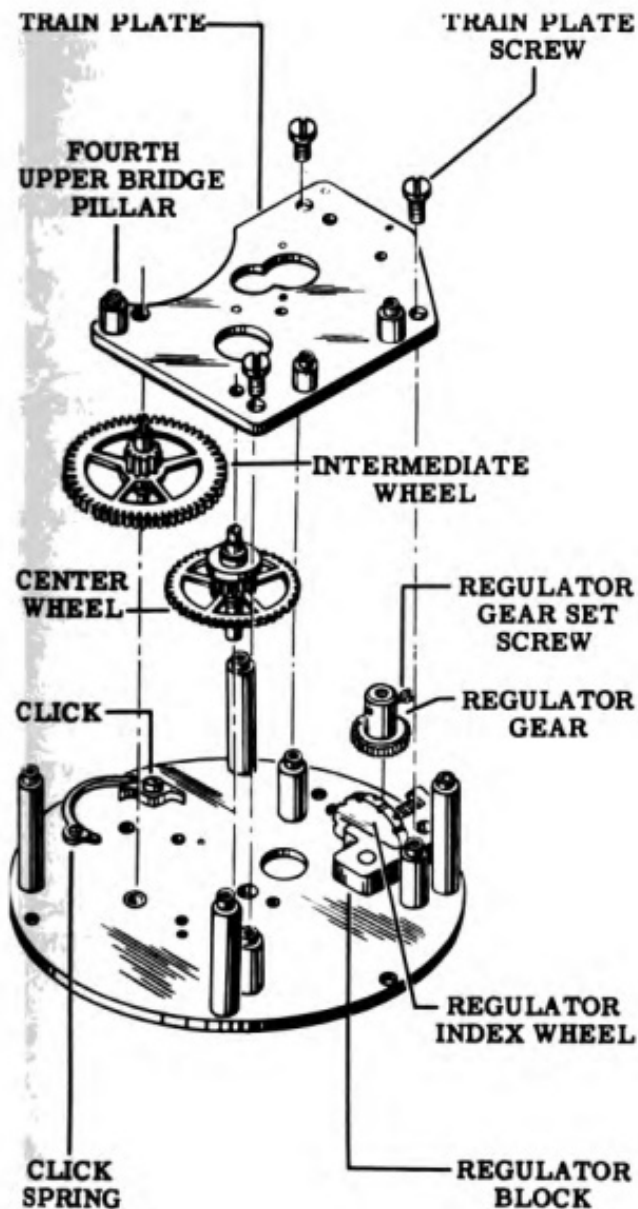
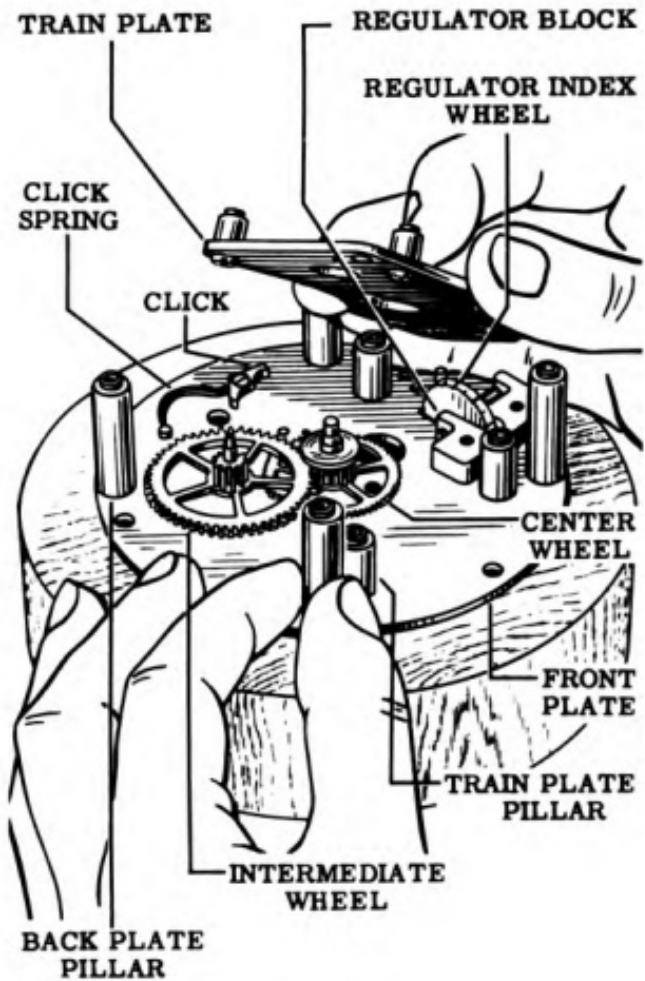

Figure 24
Figure 25
14. Unscrew the three train plate screws (see Fig. 24) and lift off the train plate as shown in Fig. 25.
15. Lift out the intermediate and the center wheels. Remove the regulator gear if it was not removed in Step 11. See Fig. 24 for the relative positions of these parts.